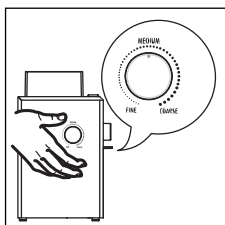

fig. 5
- Set the ground coffee coarseness level by adjusting the ground coffee coarseness dial (Fig. 5) to the desired level.
- Use the coarseness selector dial (**Fig. 5**) to adjust the grind according to the type of coffee maker.
- To remove the upper burr, set the coarseness selector dial (**Fig. 5**) to the fine position then take hold of the top of the burr of the upper mill with your fingers and turn clockwise, then pull it vertically to remove.
- To replace the upper burr, set the coarseness selector dial (**Fig. 5**) to the coarse position, insert the burr and turn it once counter-clockwise.